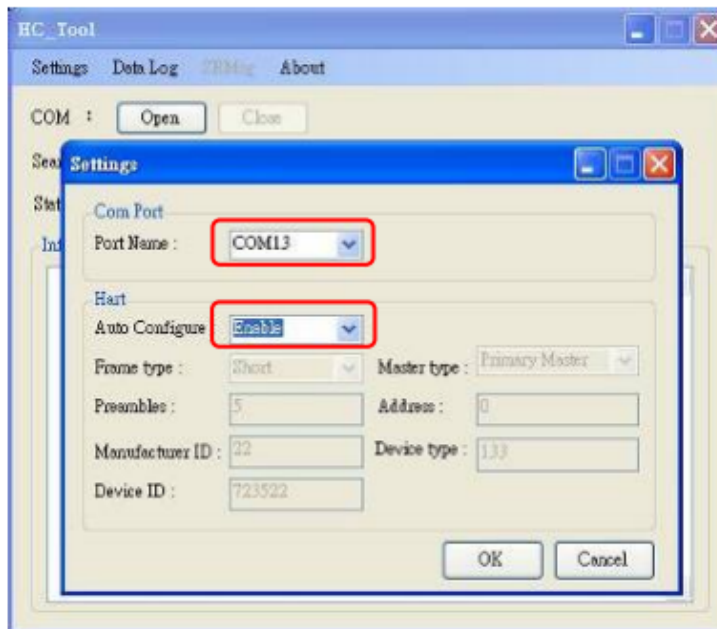

Figure 3-2: Set Com Port and HART Command Parameter
Step3: Set the “Port Name” and “Auto Configure” parameters like Figure 3-2.